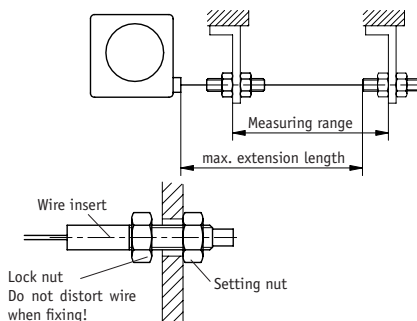

Fig. 2: Extension length check
- After mounting, check that the maximum extension length complies with the application (fig. 2).
Pull out the wire perpendicular to the wire outlet (fig. 2).